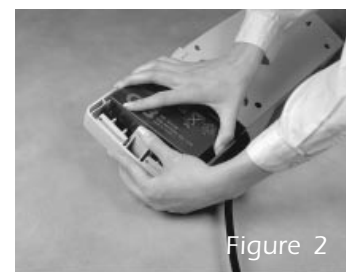

Figure 2
- Once battery cover is removed, pull back the battery retaining clip, and tip the battery up and out. (Figure 2)